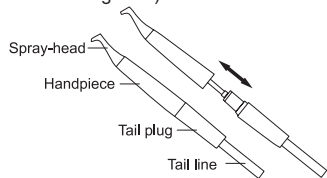

Figure 1
2.3 Ensure that the handpiece and the tail cord are well connected (as shown in Figure 1).